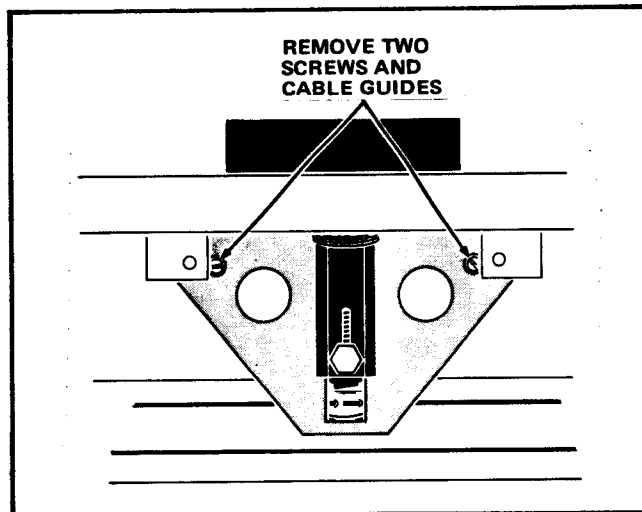

FIGURE 4
7. Remove the 2 Screws and Cable Guides which are accessible through the two holes in the Push Button Assembly. See Figure 4.